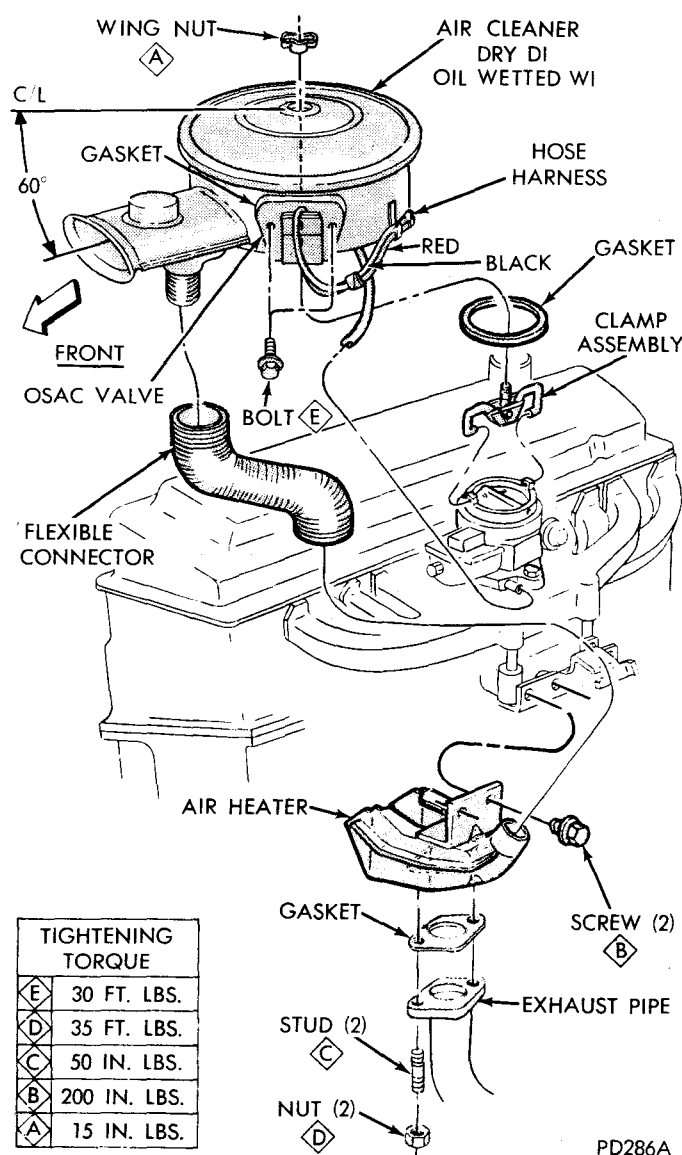

Fig. 4—Carburetor Air Heater and Air Cleaner Six Cylinder Engines (D100 and W100)
buretor and flexible connector between air cleaner and carburetor air heater at heat stove. (Fig. 4).
- (1) Refer to figure 4, install carburetor air heater with two screw and washer assemblies. Tighten to 200 inch-pounds.
- (2) Attach exhaust pipe to manifold flange, using a new gasket. Tighten stud nuts to 35 foot-pounds.
- (3) Install air cleaner and connect air cleaner to breather cap line.
- (4) Install air cleaner to carburetor vacuum line and flexible connector between air cleaner and carburetor air heater.